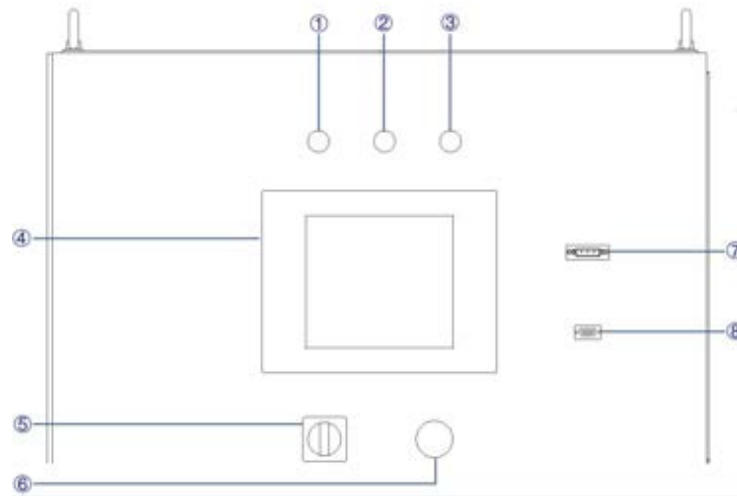

Figure 1-11 Front panel of power supply
The CAN interface is located on the front panel of power supply (Figure 1-11⑦).